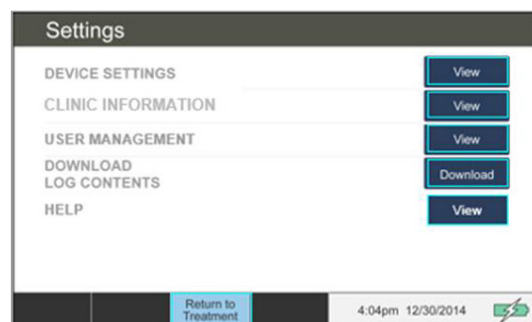

Figure 19 Settings Screen
- The Settings screen allows you to access **DEVICE SETTINGS**, **CLINIC INFORMATION**, **USER MANAGEMENT**, **DOWNLOAD LOG CONTENTS**, or **HELP** (see Figure 19).